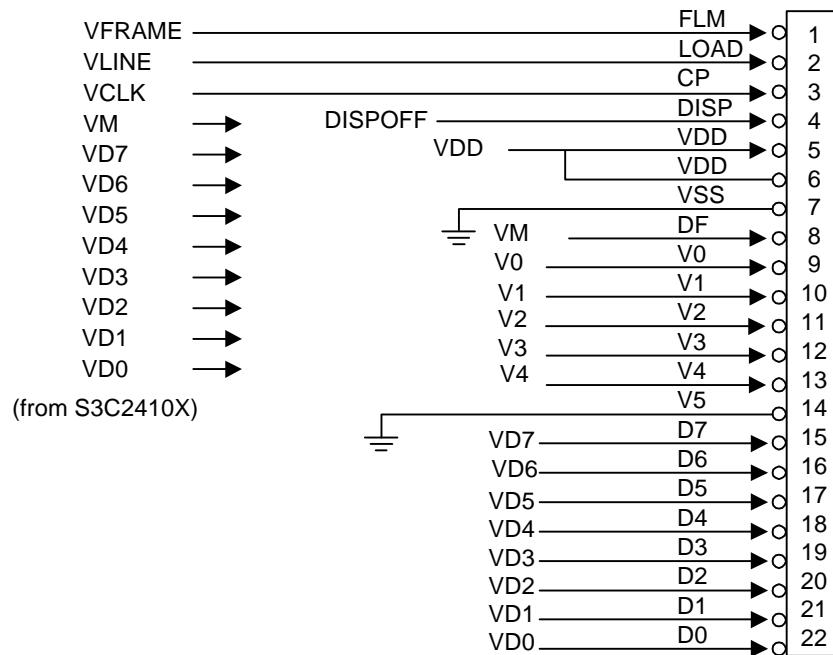

Figure 4-17. LTS350Q1 Connection with S3C2410X (Samsung 3.5" Reflective TFT LCD)
- LTS350Q1 (64K color TFT LCD) from SAMSUNG ELECTRONICS CO., LTD. (refer to Figure 4-17)